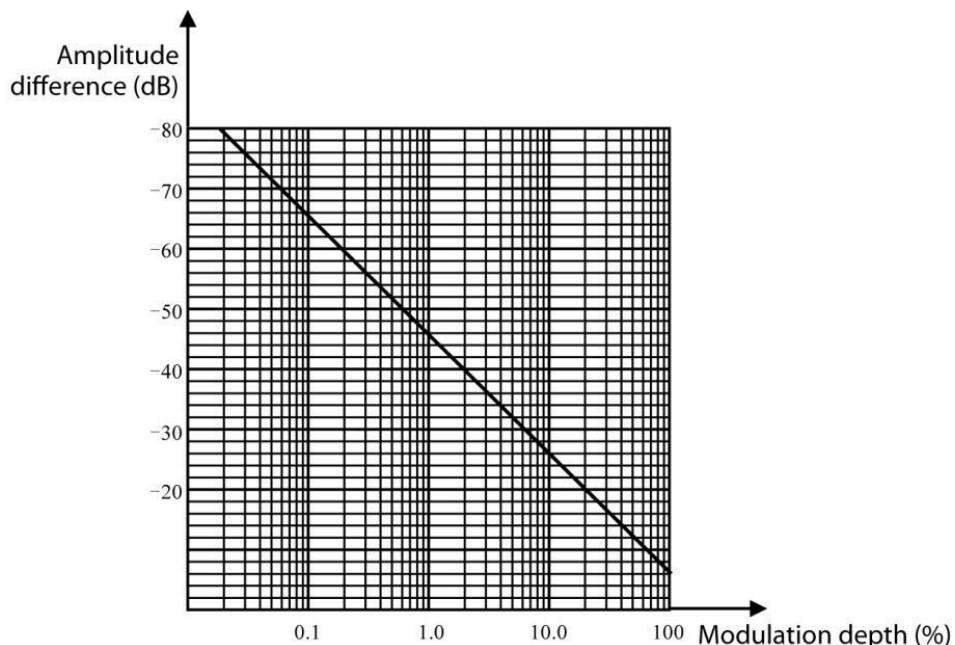

Fig. 4.34 Relation graph of modulation depth and amplitude difference
- Press 【Peak Search】 , [Delta Marker] and [Next Peak] to get the difference between the carrier and the sideband signal. The frequency difference of two signals can be read via the delta marker, which is the modulation speed of the measured AM signal and used to determine modulation depth as shown in Fig. 4.34.